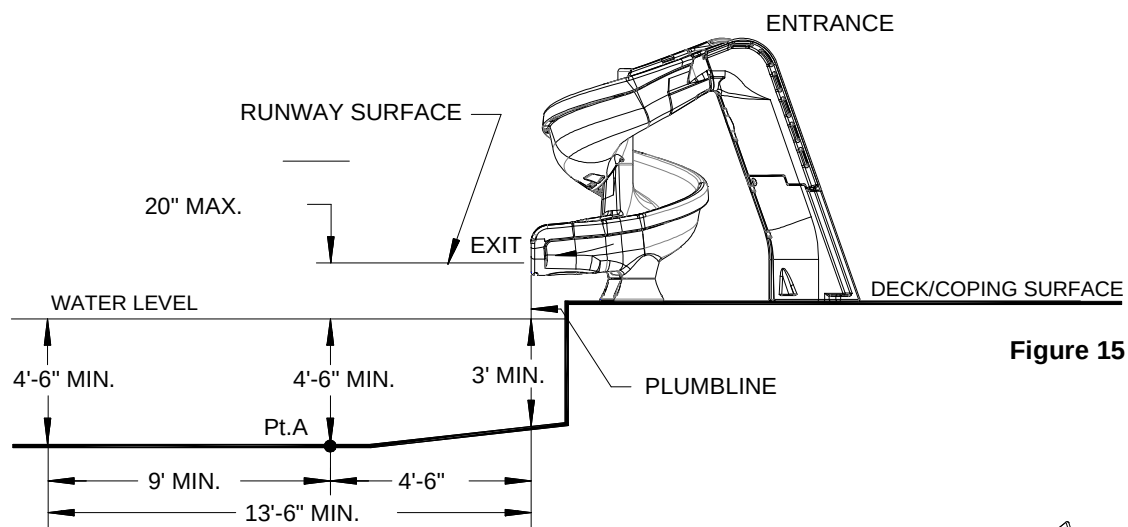

Figure 15
1. The critical dimensions for placement of the Helix are as shown in Figures 15 and 16.
- A. The slide exit runway surface shall not exceed twenty inches (20") above the water surface as shown in Figure 15.
- C. The minimum depth of water below the exit lip of the slide shall be three feet (3') and increase to four feet six inches (4'-6") at Pt. A, which is a distance of four feet six inches (4'-6") from the exit lip of the slide as shown in Figure 15.
- D. A minimum depth of four feet six inches (4'-6") shall be maintained at a distance of nine feet (9') along the extended centerline of the slide from Pt. A. as shown in Figure 15.